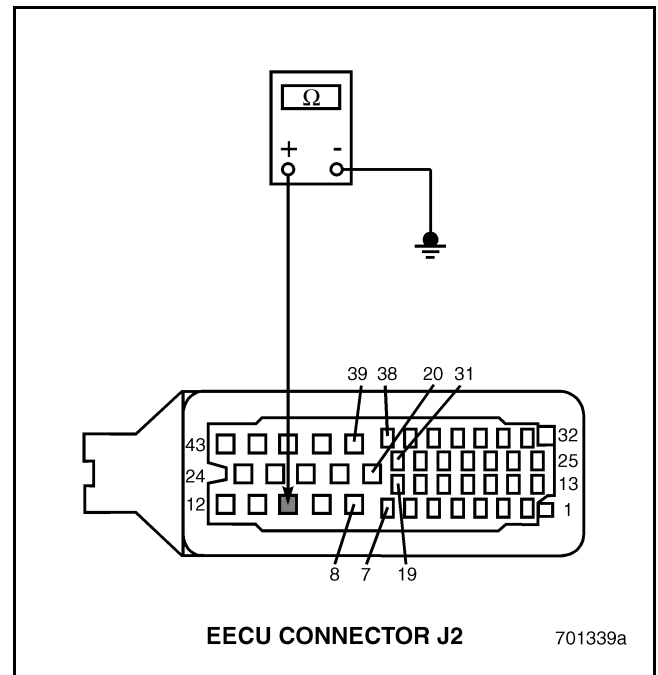

Figure 725
3. Check for continuity between EECU connector J2 pin 10 and a good ground (see Figure 725).